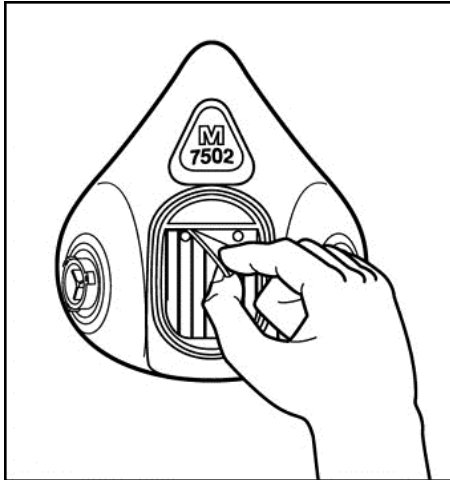

Fig. 18
2. Remove 3M™ 7583 Exhalation Valve from valve seat by pulling each valve stem separately from holes. (Fig. 18)